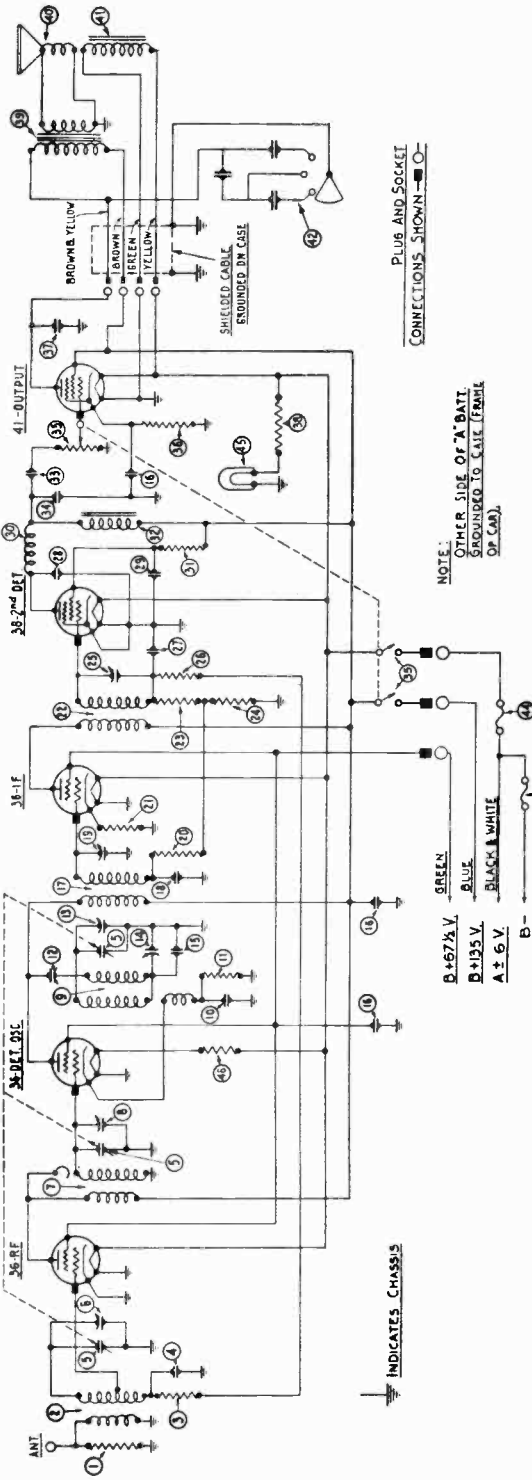
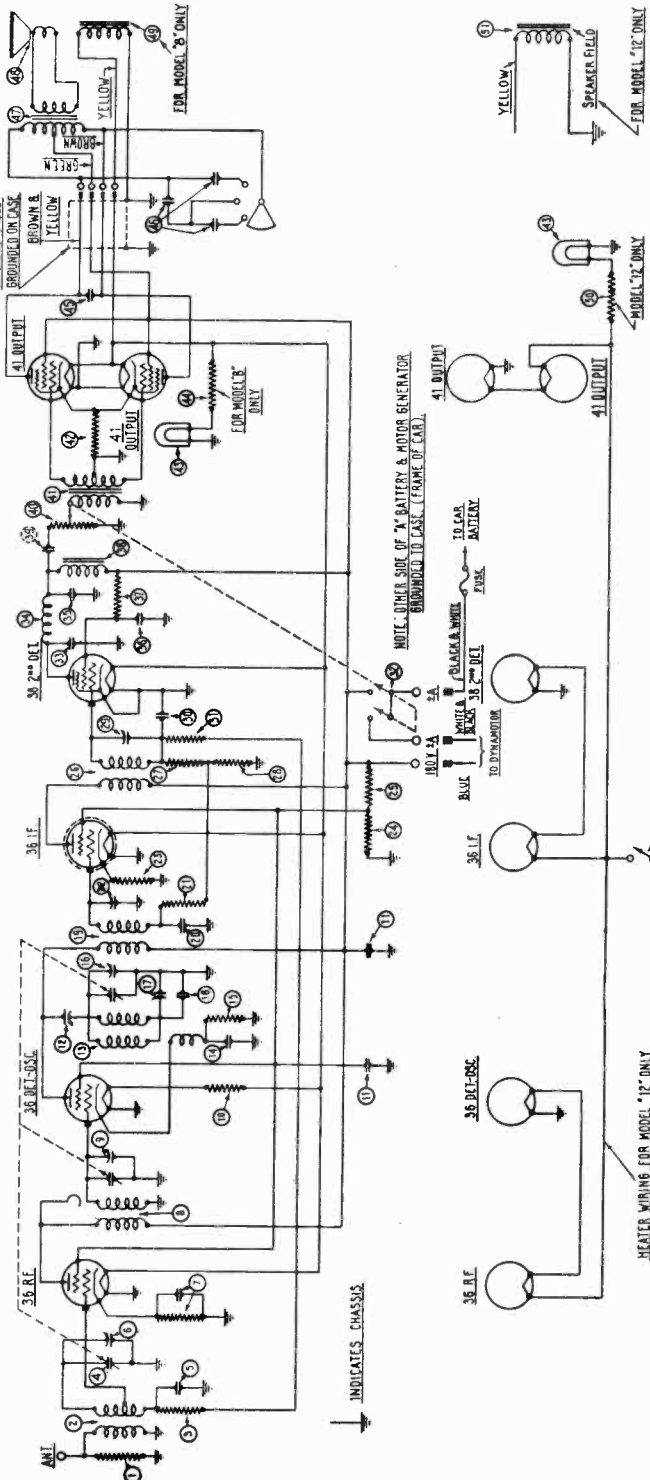

Fig. 3—Model 7—Wiring Diagram
Fig. 4—Models 8 and 12—Wiring Diagram
Using a Philco 3164 fibre wrench, adjust the second I.F. condenser. This is numbered ② on figs. 3 and 5 and ② on figs. 4 and 6.
Next adjust the secondary and primary I.F. condensers. These are ① and ③ respectively on figs. 3 and 5 and ② and ④ on figs. 4 and 6.
Low Frequency Condenser—Now tune the Receiver to 700 K. C. and adjust the condenser ④ on figs. 3 and 5 and ⑦ on figs. 4 and 6. During this operation the tuning condenser must be shifted and the compensators must be adjusted to bring in the maximum signal.